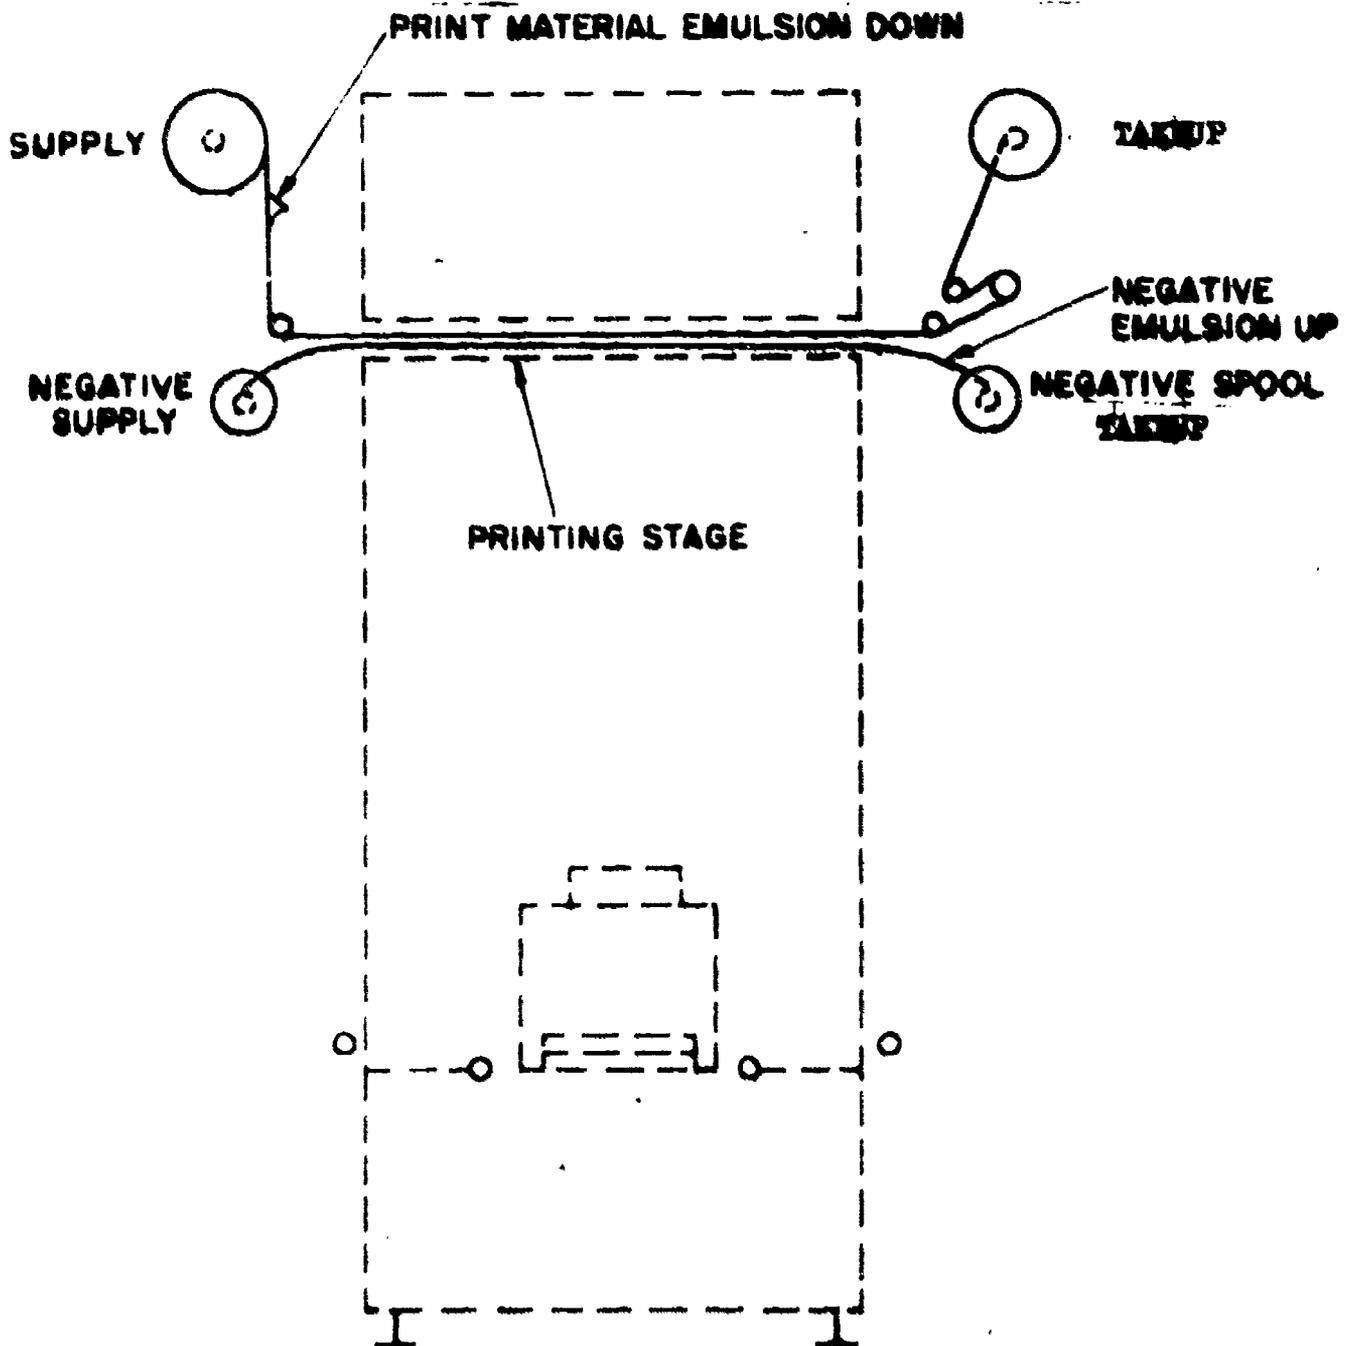

Figure 4-6. Contact Mode Threading Diagram
- 10. Turn off all but allowable safelights. Position the rawstock (emulsion down) on top of the negative on the printing stage. If the rawstock is in roll form, thread it according to Figure 4-6.